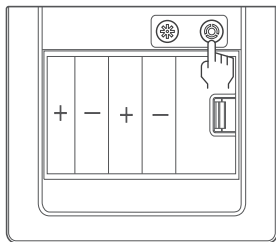

Figure 5
1. As shown in Figure 5, press "  " for 3 seconds. There will be a voice prompt "Vibration alert is on", indicating successful operation. Press the same button for another 3 seconds can turn the "Vibration alert" off.